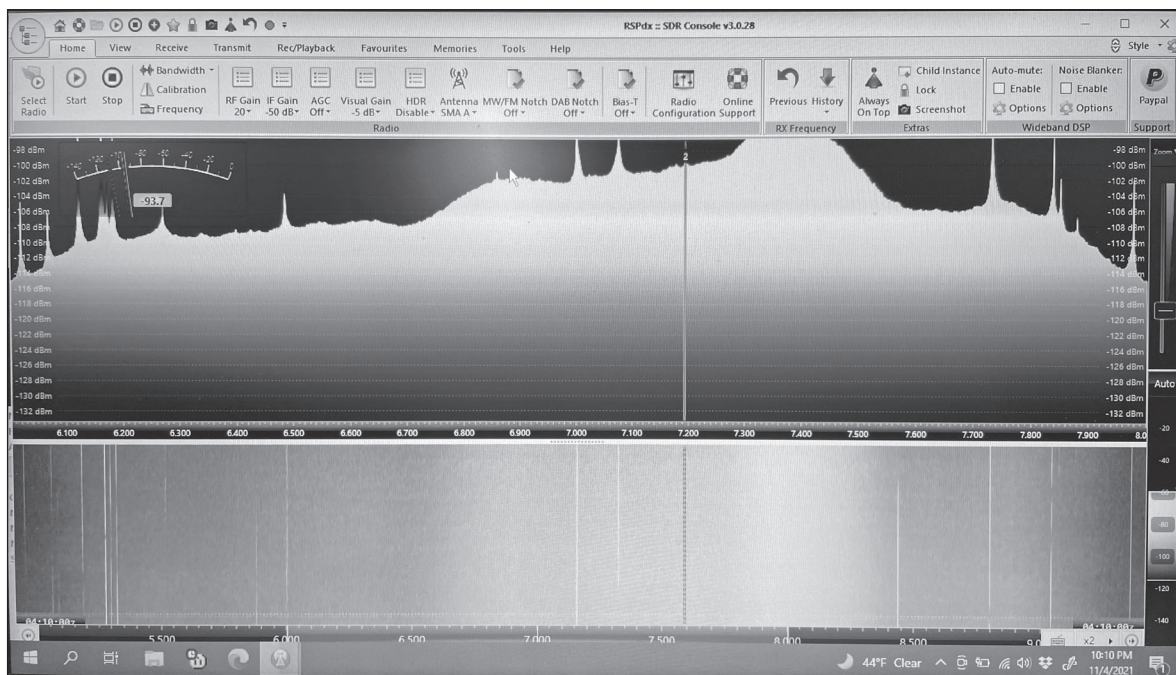

Figure 27.20 — Showing source of 160-meter RFI originating from a switchmode power supply source outside the band.
- Ability to zoom out to see a wide span of 2 to 8 MHz (to match patterns of RFI from sources outside the amateur bands to what you are experiencing inside the bands) (see **Figure 27.20**)